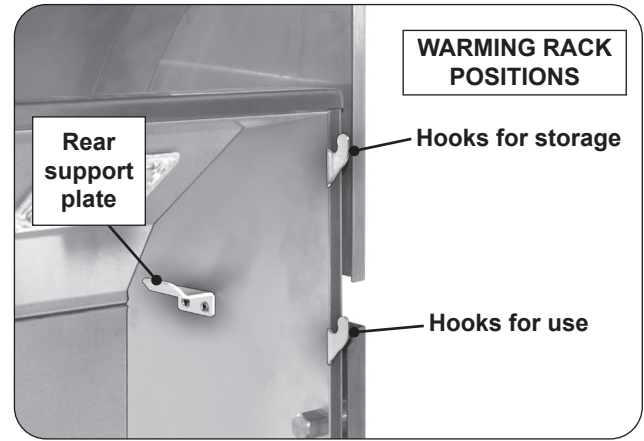
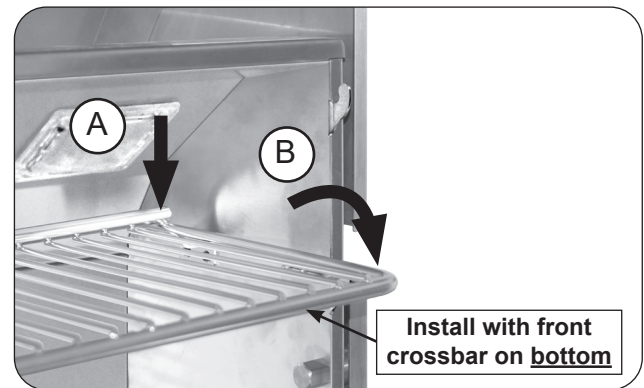
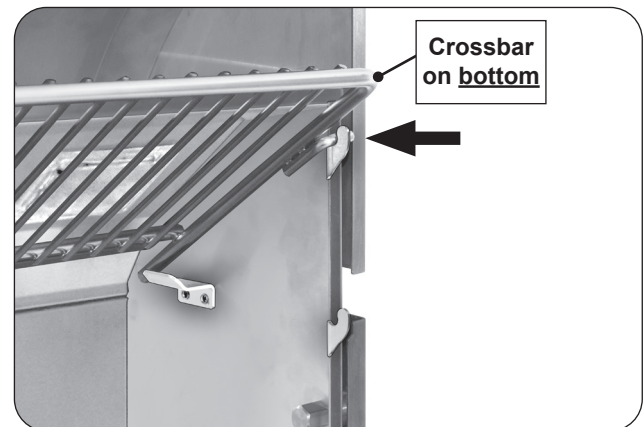

Fig. 30-1 Warming rack hooks
Fig. 30-2 Place warming rack for use
Fig. 30-3 Place warming rack in storage position
1. Locate the warming rack hooks and rear supports found on the upper portion of the grill oven (see Fig. 30-1).
2. With the warming rack oriented as shown, carefully rest the rear of the rack onto the rear support plates (Fig. 30-2, A), then rest the warming rack arms onto the two lower hooks for use (Fig. 30-2, B). Use the top hooks for storage (see Fig. 30-1 and Fig. 30-3). Placing the warming rack in storage position or removing the warming rack before using the rotisserie will leave more clearance for the meat being cooked (if applicable).